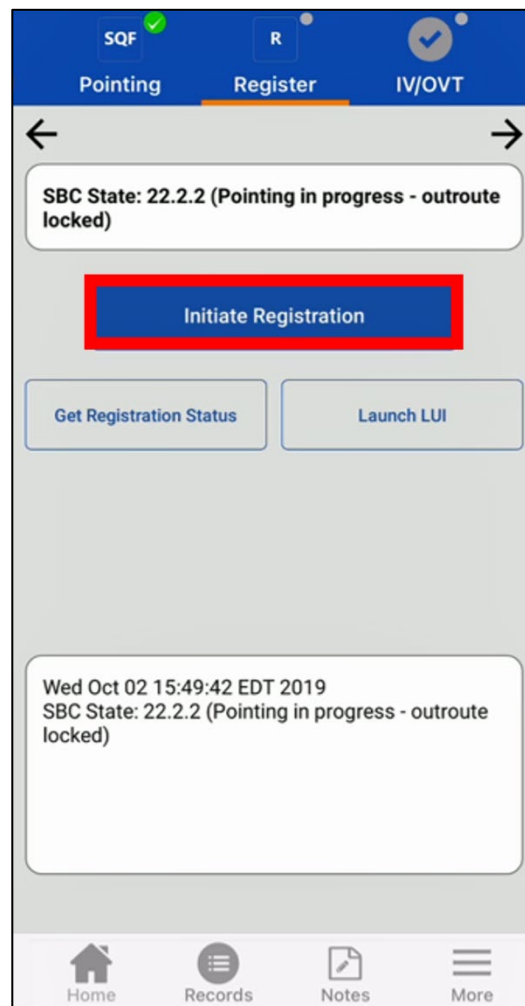

Figure 69: Register step – pre-registration
The Register step (Figure 69) allows you to perform the modem's registration procedure to the Hughes network.
1. Tap **Initiate Registration** (outlined in Figure 69).